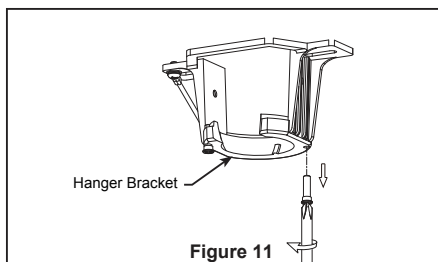

Figure 11
11. Remove one of the two shoulder screws in the hanger bracket and retain the screw for later. Loosen the second shoulder screw without fully removing it. (Figure 11)